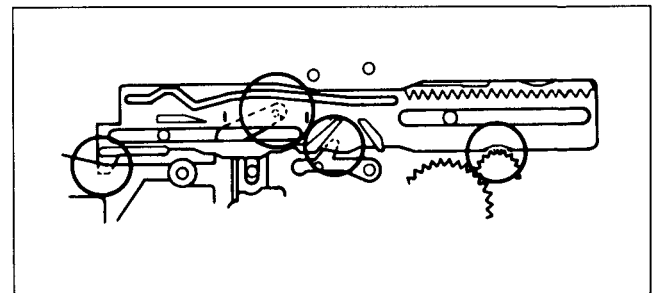
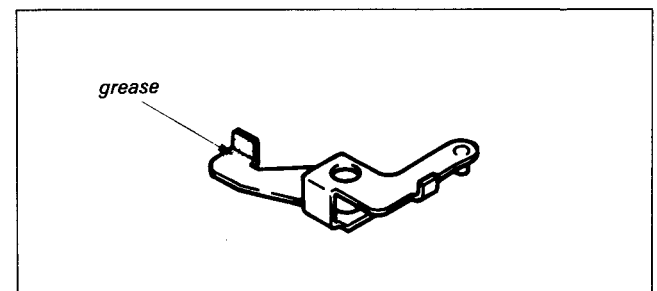

Fig. 7-42.
Fig. 7-43.
- 2) Push mode arm ① in the direction of arrow, and mount the M slider ②, noticing the positioning of the other parts in Fig. 7-42. and mount the stopper washer ③.
- 3) Mount hard brake (S) ④ and spring ⑤.
- 4) Apply grease. (See Fig. 7-43.)
- 5) Apply a half drop of oil from the spindle ⑥ groove to the bottom, mount the pinch press lever assembly ⑦ and the E ring ⑧.
- 6) Mount RL arm ⑨, mount the ring lock spring ⑩ and the stopper washer ⑪.
- 7) Mount B release slider ⑫ and stopper washer ⑬.
- 8) Mount REW brake assembly ⑭.
- 9) Mount the two tension springs ⑮.